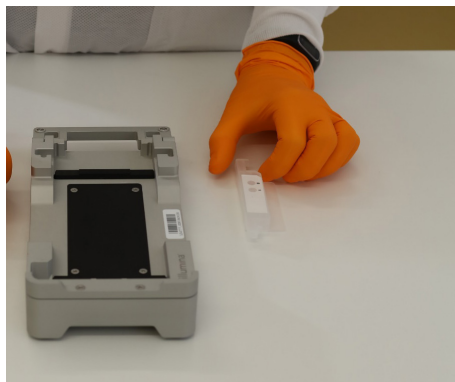

Figure 5. NovaSeq™ XP flow cell dock
1. Place the NovaSeq™ Xp flow cell dock on a flat surface (Figure 5).